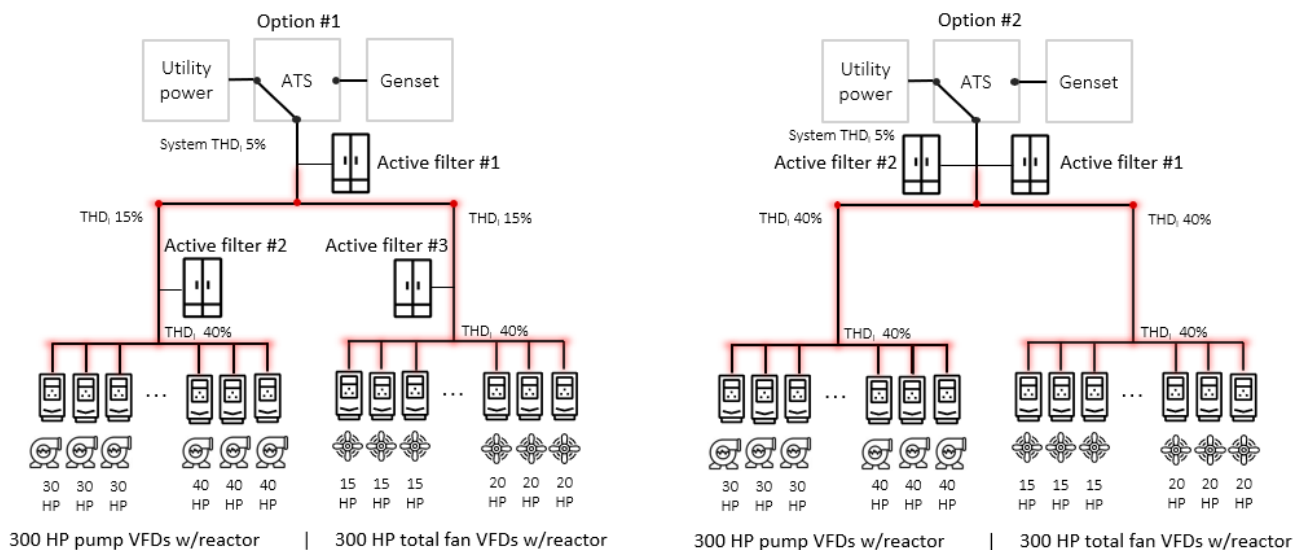

Figure 8 Centralize mitigation enhanced designs
The single point of failure, along with cost, are the two biggest challenges with a centralized mitigation strategy using active filters. There are ways to lower the risks associated with a single point of failure, however this does further increase the cost. Figure 8 reviews two different options to lower the chances of a single point of failure.
Option #1 in Figure 8 shows additional active filters throughout the system. The filters may or may not be sized to bring the THD_i levels down to 5%. Option #1 shows a scheme where active filter #2 and #3 cancels out over half of the drive's harmonics, and then active filter #1 cancels out the remainder to bring the facility to within IEEE 519-2014 compliance. In the event of any single filter failure or trip offline, there is still enough mitigation in the system from the other active filters to prevent significant harmonic concerns.
Option #2 in Figure 8 shows additional active filters in parallel. When a single active filter fails, or single smaller module within a large active filter fails, there is still other active filtration available. There is a concern if parallel active filters or modules share common components, such as a control power transformer (CPT), fuses, current transformer (CT), or power feed from the switch gear / panel, as now the single point of failure moved from the filter itself to an auxiliary component. And that auxiliary component becomes the new single point of failure. Designs should be implemented so there are no auxiliary single points of failure. Service should also be considered; if active filter #1 is down for service, it must be safely worked on from start to finish without impacting active filter #2.